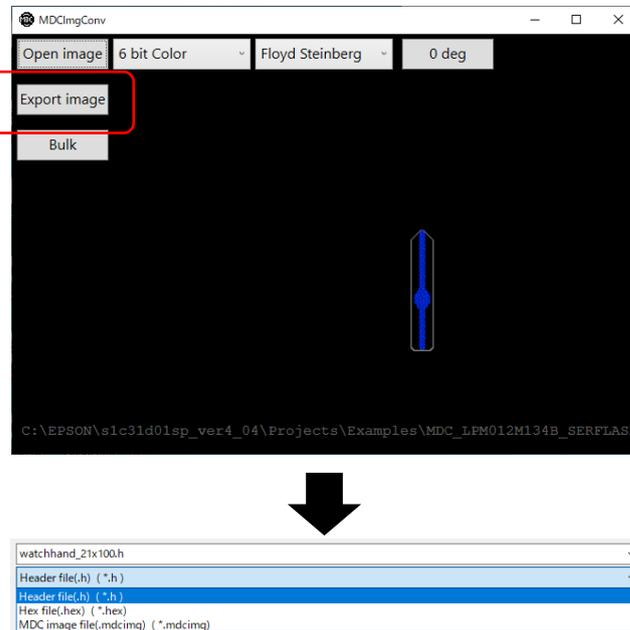

Figure 5.2 How to store files with MDCImgConv.exe-1
- (2) Click the Export Image button and select the folder to store the output file (.h, .hex, .mdcimg).
- (3) Select Header file (*.h) from File Type to create a header file (.h), and select Hex file(.hex) (*.h) to create a Hex file (.hex) from MDCFONT If you select file (*.mdcimg), a binary file (.mdcimg) will be generated. (See Figure 5.2)